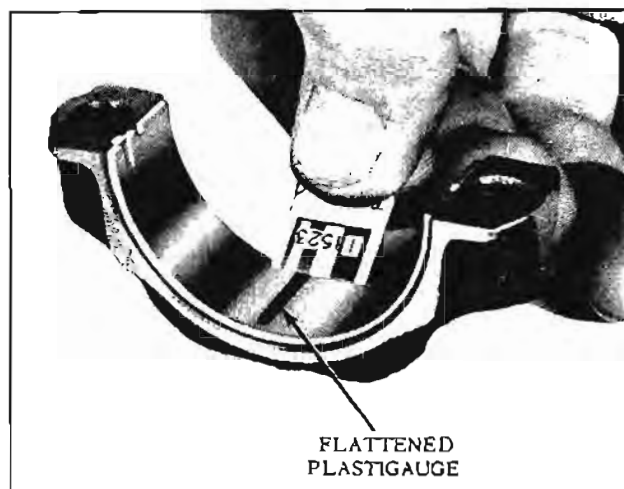

Fig. 8-126 Checking Oil Clearance
9. Remove bearing cap and determine bearing clearances by comparing the width of the flattened plastigauge at its widest point with the graduation on the plastigauge container. The number within the graduation on the envelope indicates the clearance in thousandths of an inch. (Fig. 8-126) If this clearance is greater than .0035", replace the bearing and recheck clearance with plastigauge.